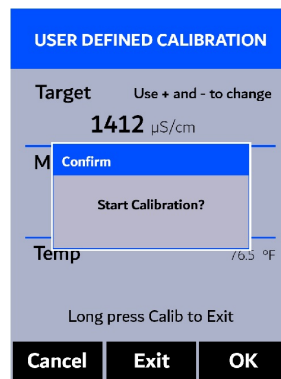

Figure 22.
9. The display updates as shown in Figure 22 and the user can choose one of three options: